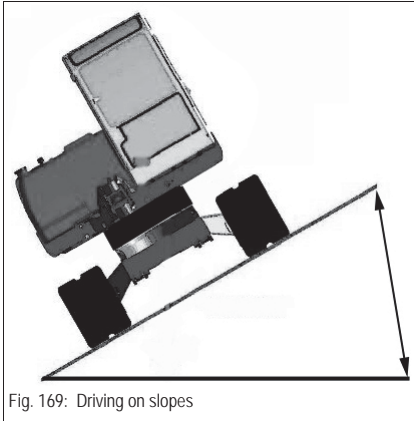

Fig. 169: Driving on slopes
- Only select the eccentric position shown in Fig. 169.
For increased stability for driving across slopes, position the excavator with respect to the slope as shown in Fig. 169.